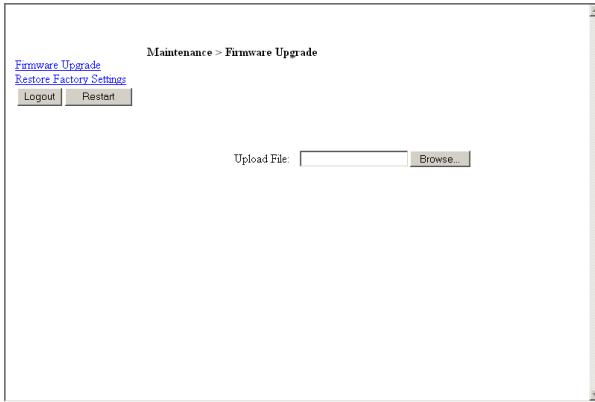

Figure 34 Safe mode menu
4. Type username: **admin** , password: **SAFEmode**. (Case sensitive). (This username and password works only in Safe mode). A menu appears, see Figure 34.